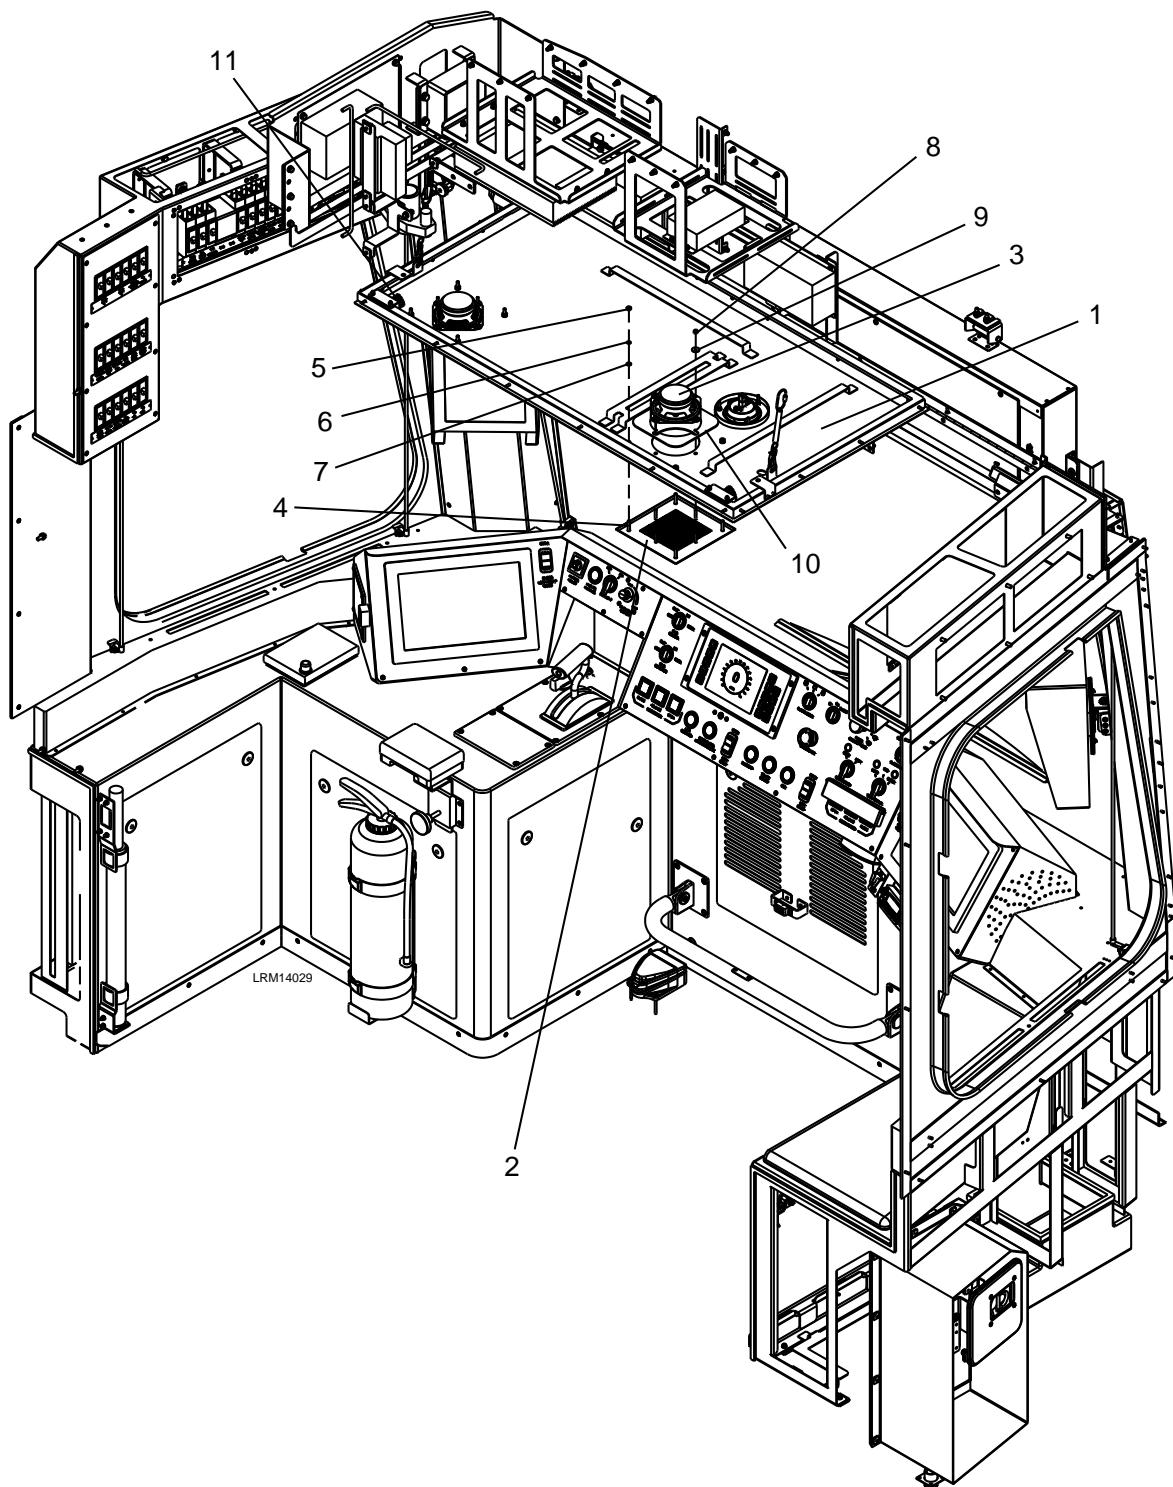

Figure 8-12: Cab 4" Speaker
1. Unlock the two locks (11) and lower the cab ceiling panel (1) to access the cab speaker hardware and disconnect the electrical connection. See Figure 8-12.
2. Remove the four M6 hexagon nuts (5), M6 lock washers (6), M6 plain washers (7), and M6 x 20 screws (4).
3. Remove the speaker grill (2).
4. Remove the four lock nuts (8), and plain washers (9).
5. Remove the speaker (3).
6. Remove the speaker gasket (10).